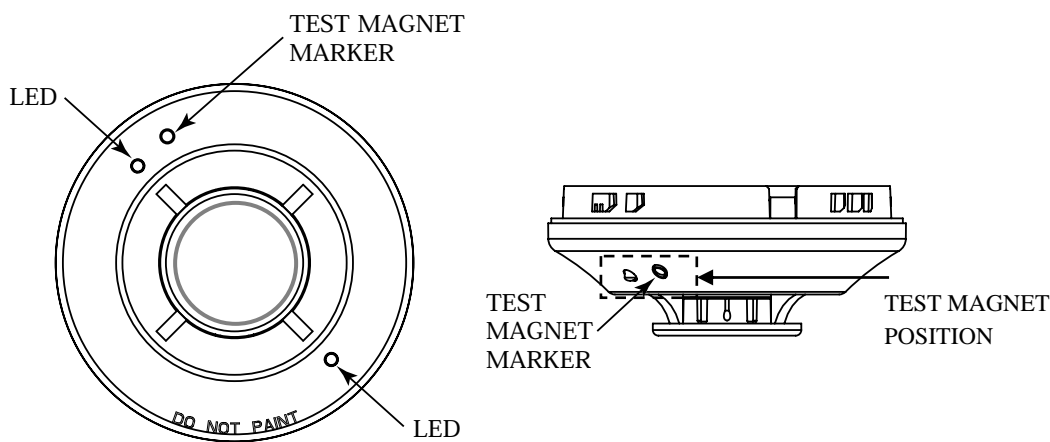

Figure 1. Bottom and side views showing position of test magnet:
1. Place the magnet against the cover in the location designated by the raised mark to activate the test feature (see Figure 1).